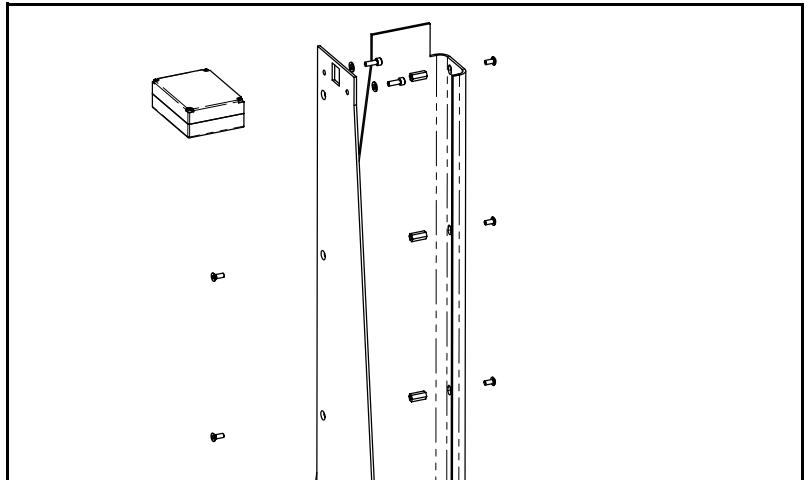

Figure 8
5. Place the height sensor, labeled “Top,” at the top of the corner where the side panels meet (see Figure 8), and align the screw holes.